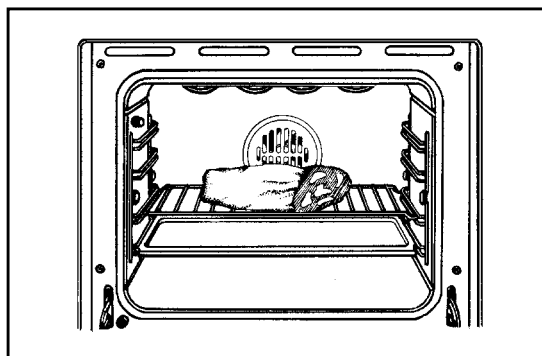

Fig. 8
- You can also place food directly on the oven shelf, as shown in Fig. 8. In that case, always place the dripping pan at the lowest level, with some water in it, to avoid smoke and unpleasant smells.